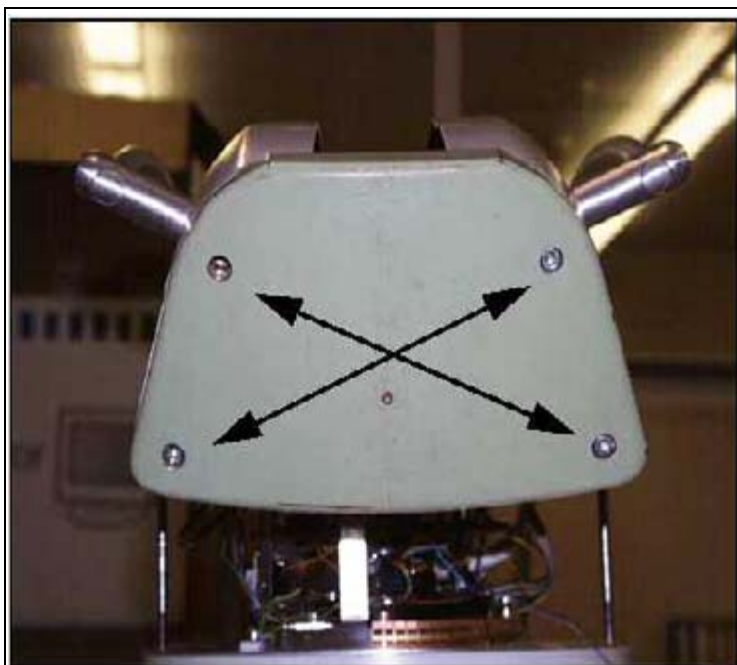

Fig. 6: Cover 3
2. Remove the 4 mounting screws ((Fig. 6 / p. 24)).